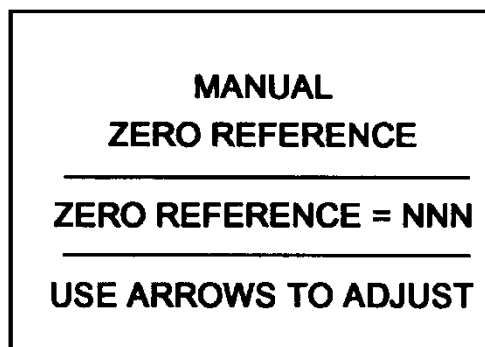

Figure 17
13.7.3 Verify that the display changes to "MANUAL ZERO REFERENCE / ZERO REFERENCE = NNN / USE ARROWS TO ADJUST", per Figure 17.